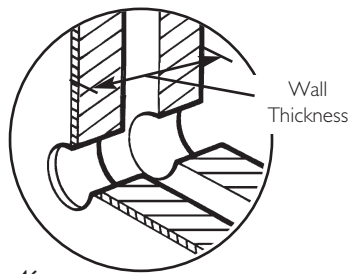

Fig. 46
2. Measure the thickness of the wall from the inside. This will be known as **Wall Thickness** (Fig 46).